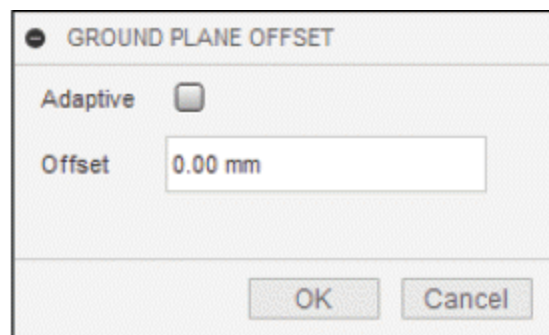

Figure-119. GROUND PLANE OFFSET dialog box
- Click on the **Ground Plane Offset** tool from the **Display Settings** flyout. The **GROUND PLANE OFFSET** dialog box will be displayed; refer to Figure-119. Clear the **Adaptive** check box and set desired offset value if you want to change the location of ground plane. Note that position of ground plane is generally changed for rendering which will be discussed later.